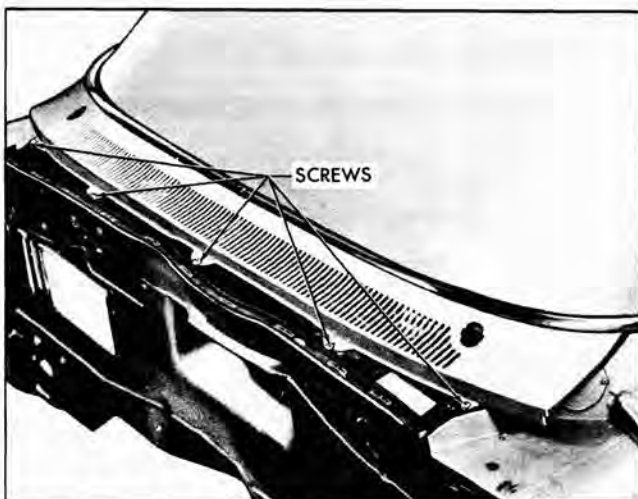

Fig. 2-3 Air Intake Grille
3. Remove air intake grille attaching screws (Fig. 2-3).